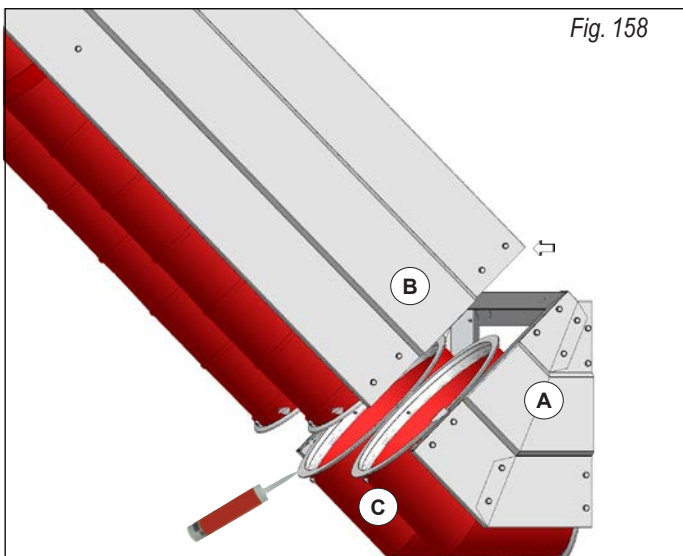

Fig. 158
Hook the second part of the kit variation dimension (A) with the unit of radiant previous tape (B) via the nose piece and the slot. Hook finally the kit to the next module radiant tape (B) via the nose piece and the slot (fig. 158) so finishing the upward height variation.